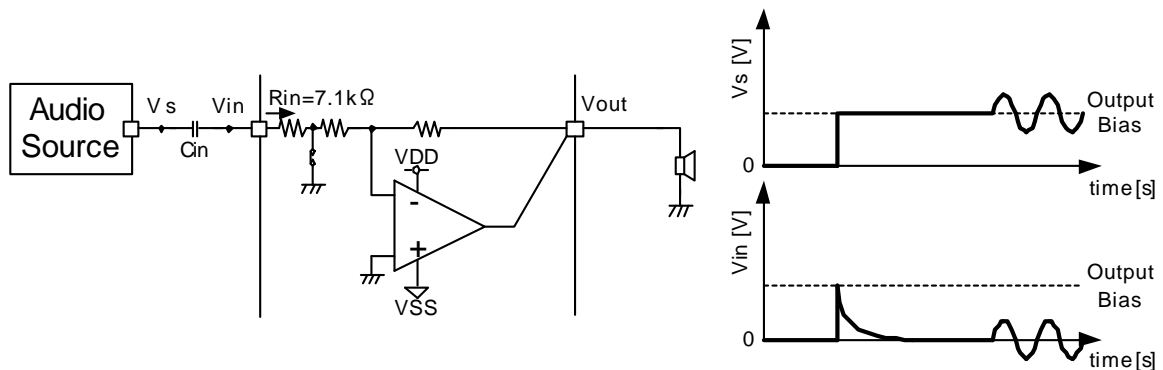

Fig.65 Input voltage transition with input coupling capacitor
This charge time constant becomes the following formula (3) by using the input coupling capacitor and the input impedance. And the calculation value of the convergence to the wait time is indicated in Fig.65.